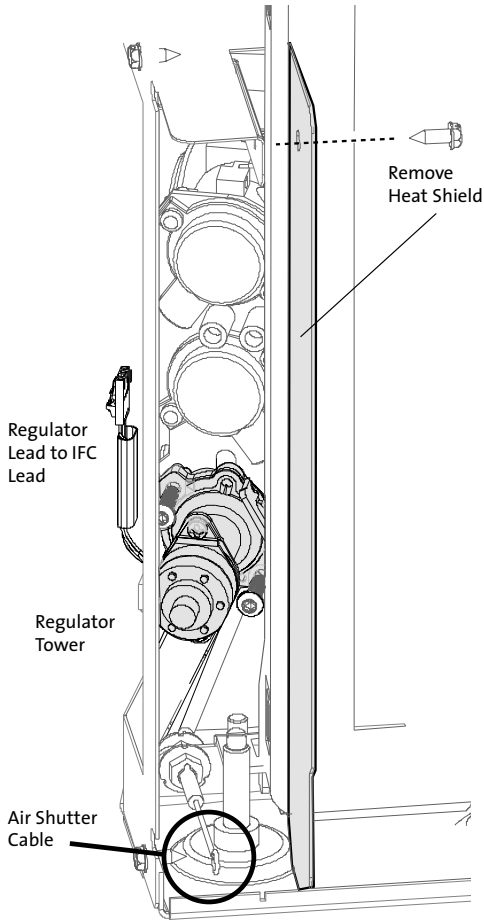
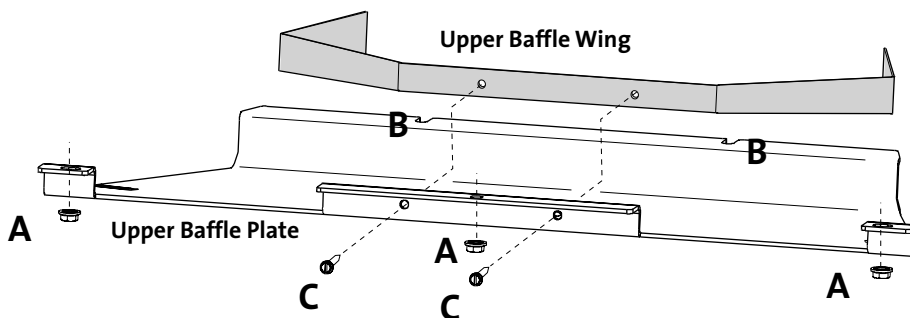

Figure 3. Valve Compartment components.
Figure 6. LP ONLY: Remove the Upper Baffle Wing.
7. **LP CONVERSION ONLY: Remove the Upper Baffle Wing from the firebox.** See fig. 6.
- Remove three 10 mm hex nuts (A) from the front of the Upper Baffle plate.
- Loosen, but do not remove the two 10 mm hex nuts (B) from the rear of the Upper Baffle plate. These are not visible, but you will be able to locate them with your fingers. The baffle plate will drop down enough to enable you to remove the Inner Wing panel from the firebox.
- Remove the two sheet metal screws (C) that secure the Inner Baffle Wing to the center of the Upper Baffle.
8. **CHANGE THE VARIABLE REGULATOR TOWER** on the gas control valve. See fig. 3.